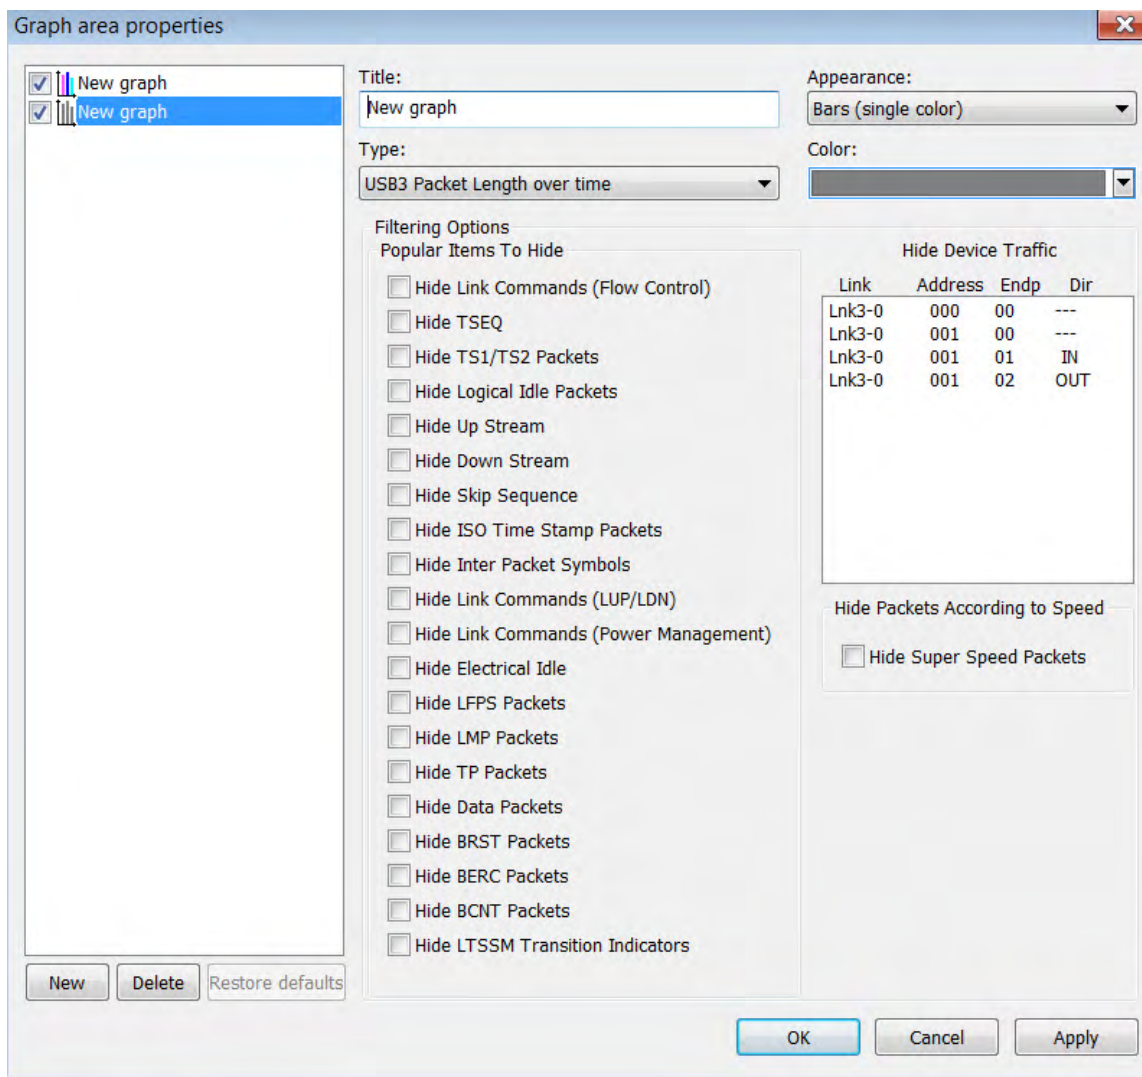

Figure 9.24: Graph Area Properties Dialog
1. In the Graph Area properties dialog box (see Figure 9.24 on page 322), select the options to display in the graph display, then click **OK**.
2. In the Graph Area properties dialog box (see Figure 9.24 on page 322), select the options to display in the graph.